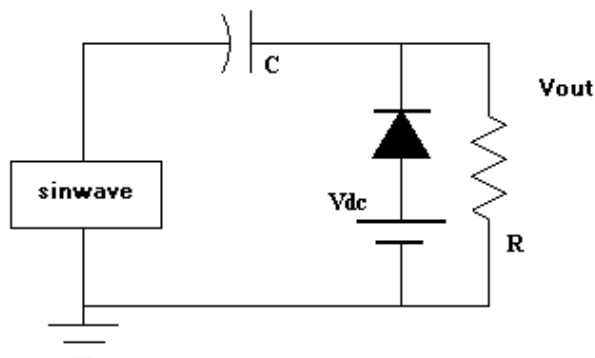

Figure 5.9
7. Sketch the output waveform of the circuit in figure5.9?